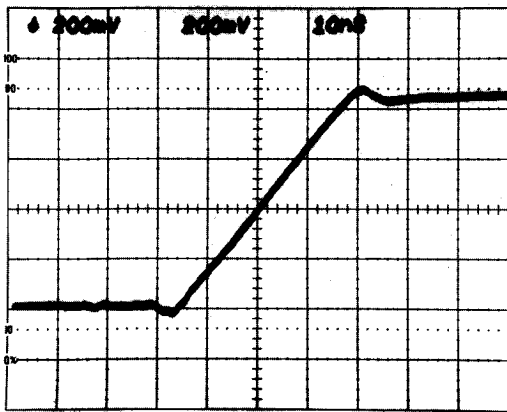

Fig. 4-5. Typical CRT display when adjusting high-frequency linearity (C557, C565, C572).
o. CHECK—CRT display for a smooth and linear ramp with slight preshoot (see Fig. 4-5).